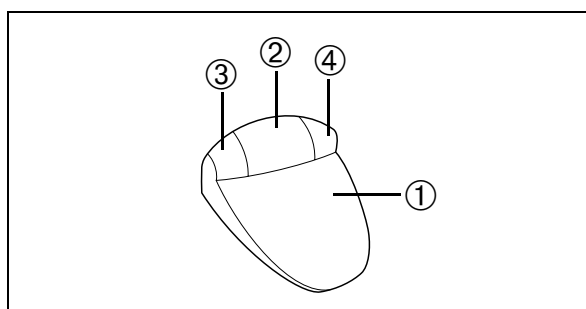

Fig. 43
You switch between dry and spray operation by tapping the right-hand button (4) (Fig. 43) on the foot control.
The chip blower is activated by tapping the middle button ② (Fig. 43) on the foot control.